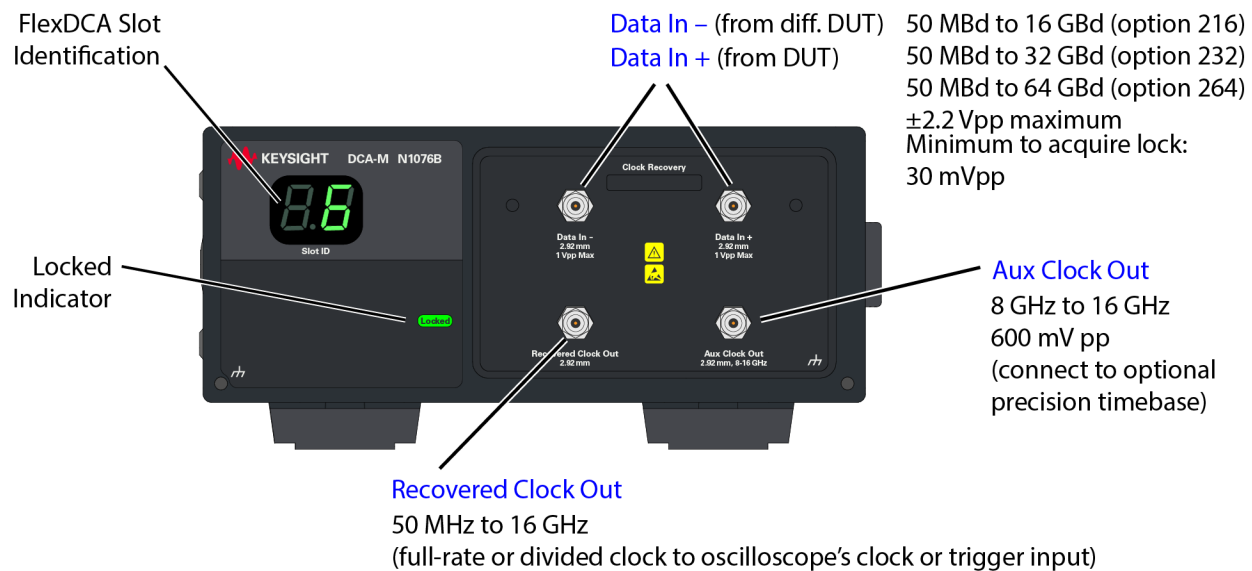

Figure 23. N1076B Front-Panel Connectors
Front-panel input and output connectors along with signal parameters are shown in Figure 23 on page 61. For additional information, refer to the N1076B specifications which are located in FlexDCA's help system.
1. Confirm that the input signal meets the baud rate and amplitude requirements shown in Figure 23 on page 61. In this procedure, the following assumptions are made for simplicity. You can change these parameters to any acceptable values.